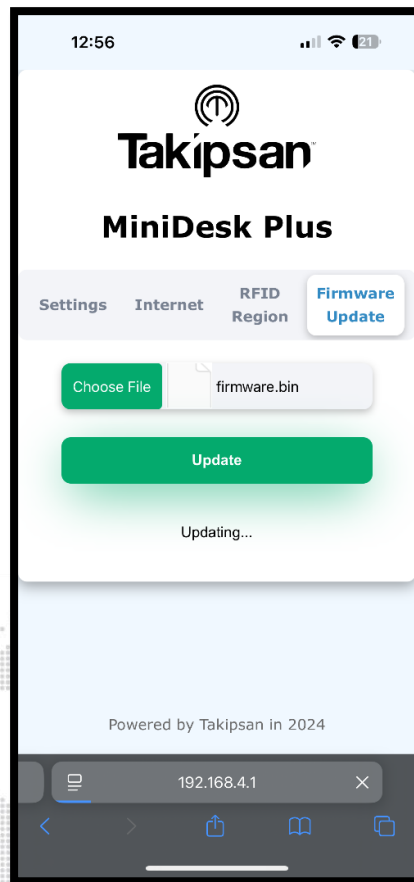

Figure-22 Updating Firmware
- Once the 'Update File' is selected, the user should then click on the 'Update' button and ensure that the MiniDesk Plus and its accompanying smartphone, tablet, or computer are kept in proximity. See Figure-22.
MiniDesk Plus can get a remote version update. It checks for a new update the first time it connects to the internet even without having 0a license. If there is a new update available, the Updating Page will be shown on the screen. See Figure-22.